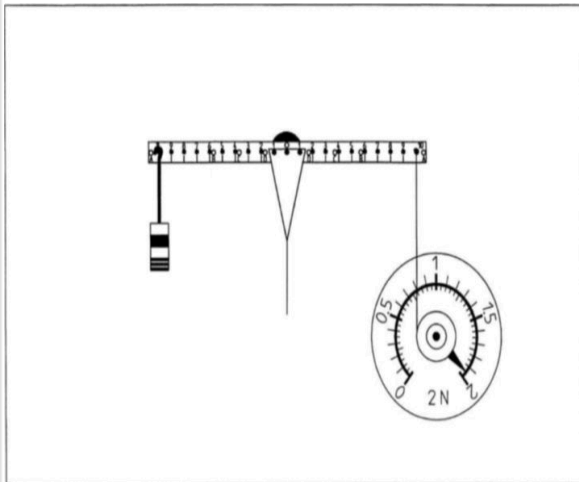

Fig. 2: Beam balance with weight and dynamometer
- Move the dynamometer until the lever is horizontal and the pull cord is perpendicular to it (Fig. 2)
$M = F \cdot I \cdot \sin \alpha$  is also known as the effective length of the force arm or effective lever length (see Fig. 2).